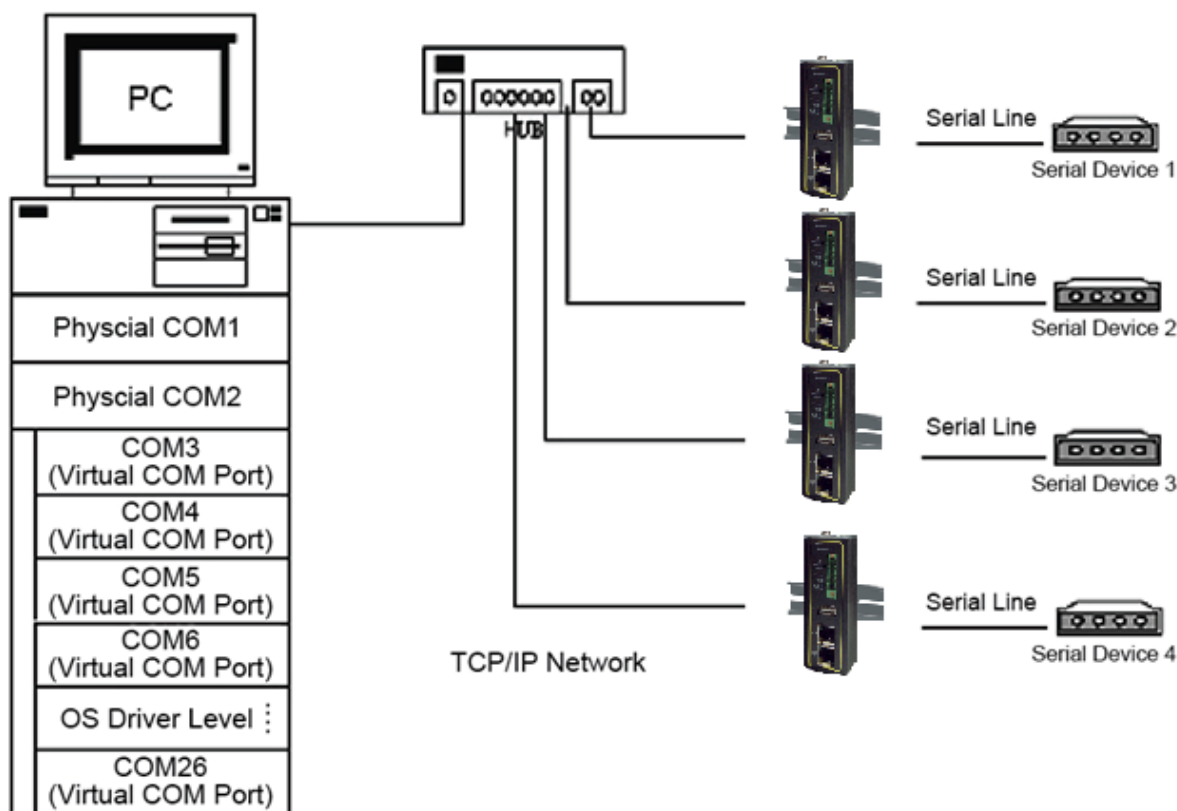

Figure 6.3 An Example Diagram of Virtual COM Application over TCP/IP Network
Virtual COM on host computer allows remote access of serial devices over TCP/IP networks through Serial/IP Virtual COM ports that work like local native COM ports. Figure 6.3 is an example of Virtual COM application diagram. In the diagram, multiple serial servers (i.e. SE5201 devices) in which each one connects to serial device are connected over an Ethernet hub. Their serial devices can be accessed through the TCP/IP network of the hub. Note that there are traditionally only two Physical COM ports (COM 1 and COM 2) on the personal computer (PC) while there can be several Virtual COM ports such as COM 3, 4, 5, and so on. In SE520X case, the TCP/IP network can be wired network such as Ethernet.